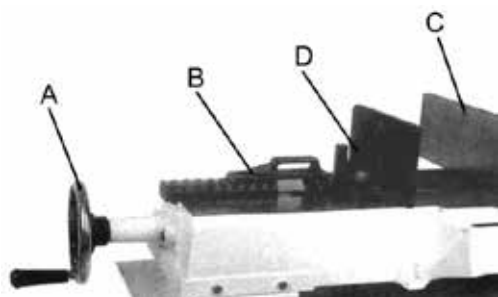

Figure 14. Vise Adjustments
1. See Figure 14. Turn vise handwheel (A) 1/2 turn counter-clockwise.
2. Move rack block (B) to desired location by sliding along the bed. Place the rack block onto the rack.